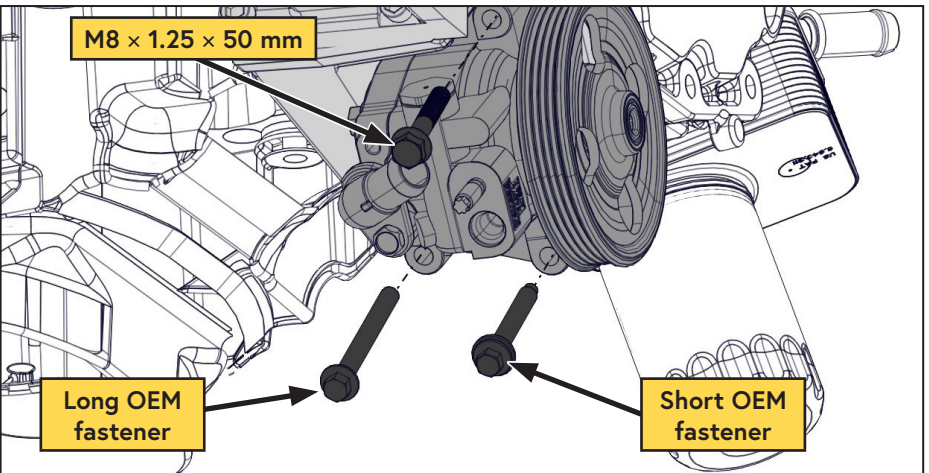

Figure 24 — Secure the power steering pump
- Mount the power steering pump on the VMAC main bracket using the supplied M8 × 1.25 × 50 mm fastener and the 2 OEM fasteners retained earlier (Figure 24).